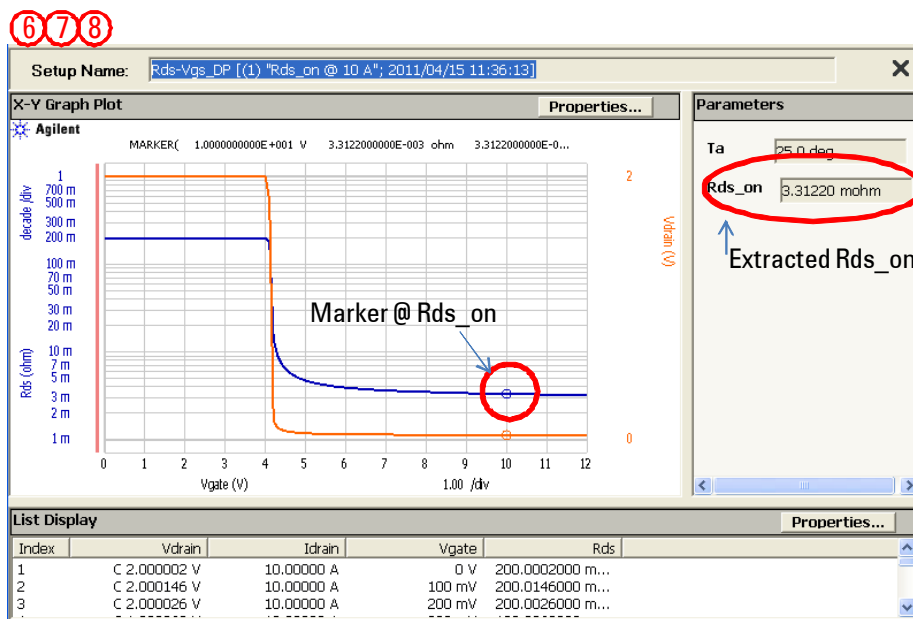

Figure 3-20. Rds-Vgs\_DP test results.
Step 8. You can see the Rds-Vgs\_DP graph in figure 3-20.
Figure 3-20 plots drain to source resistance Rds in log scale in Y1 axis and drain voltage in Y2 axis versus gate to source voltage in X axis. Marker is automatically located to the specified gate voltage Vg@Rds\_on and automatically extracted Rds\_on parameter is shown in the Parameters display field as shown in marked by circles on the figure.
Step 20. You can see the Id-Vgs curve and gfs (Y2 axis) graph that is the same as figure 3-20.
Note: Step 19 and 20 are the same as the step 7 and 8 of figure 3-20.